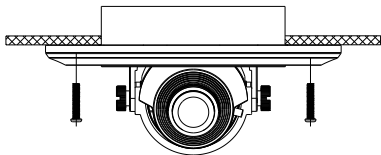

Figure 2-10 Securing the Camera
13. Secure the camera with two screws as shown in Figure 2-10.